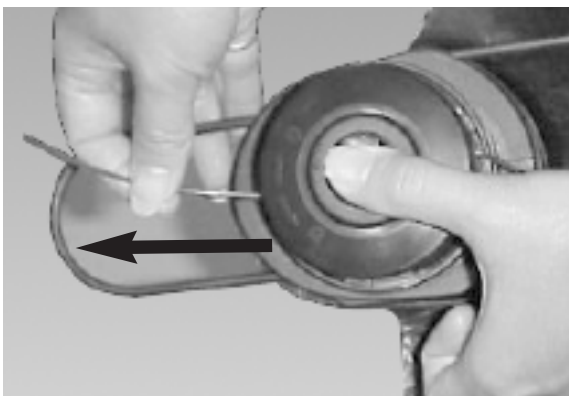

Fig. 29
9. To test if the line is advancing properly, push the button with your thumb while pulling the line with your fingers. The line should advance freely. (Fig. 29).